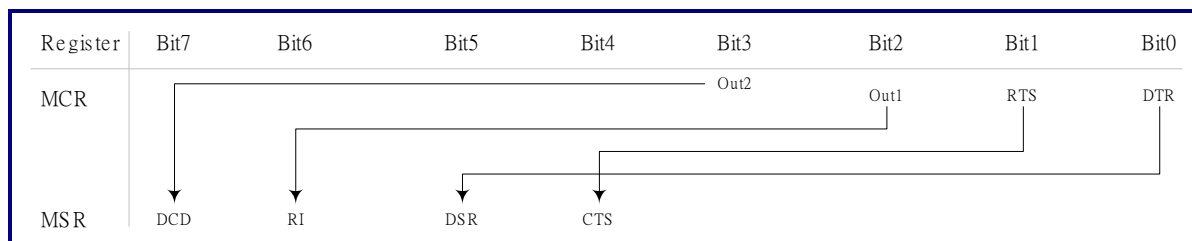

Figure 13-2. Interconnection between MCR and MSR in Loopback Mode
- Four modem control inputs are internally connected to two modem control outputs plus the general-purpose outputs. In such a way, io_irda_ncts will be internally controlled by io_irda_nrts, io_irda_ndsr is controlled by io_irda_ndtr, io_irda_nri is controlled by io_irda_nout1, and io_irda_ndcd is controlled by io_irda_nout2. That is to say; there is a non-ordered correspondence between four least significant bits of MCR and four most significant bits of MSR. Please refer to Figure 13-2 for connections. The modem control output pins are forced to the inactive state (High).